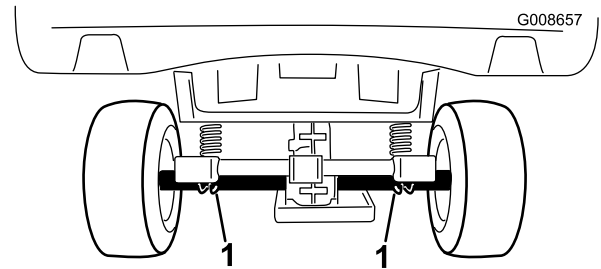

Figure 22
- The lifting point at the rear of the machine is under the axle tubes (Figure 22).